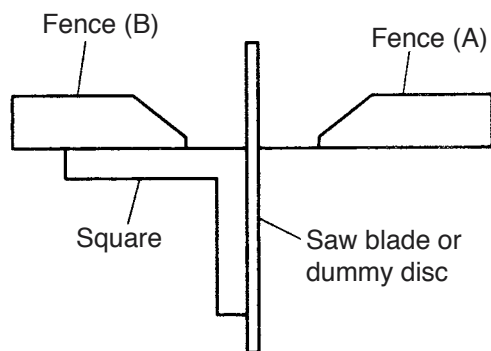

Fig. 38
After disassembly or replacement of the Base Ass'y [78], Turn Table [50], Fence (A) [75], Fence (B) [64] or Hinge [30], it is necessary to perform necessary adjustment to ensure that the fences are positioned at precise right angles with relation to the saw blade (or dummy disc). Align fence (B) with the saw blade (or dummy disc), and adjust them as necessary to ensure squareness (tolerance: 0.4/100 mm). As shown in Fig. 38, use a square to adjust fence (B) so that it is square with the saw blade. Next, use a straight edge to adjust fence (A) so that it is exactly aligned with fence (B). Finally, use the square to confirm squareness of fence (A) with the saw blade (tolerance: 0.4/100 mm).
(2) Reassembly of the Turn Table [50]